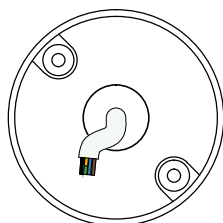

fig 2.
2. The Quatrum Surface Mounting Plate has been designed to work with either surface or recessed BEZA Boxes. (See fig 2.)